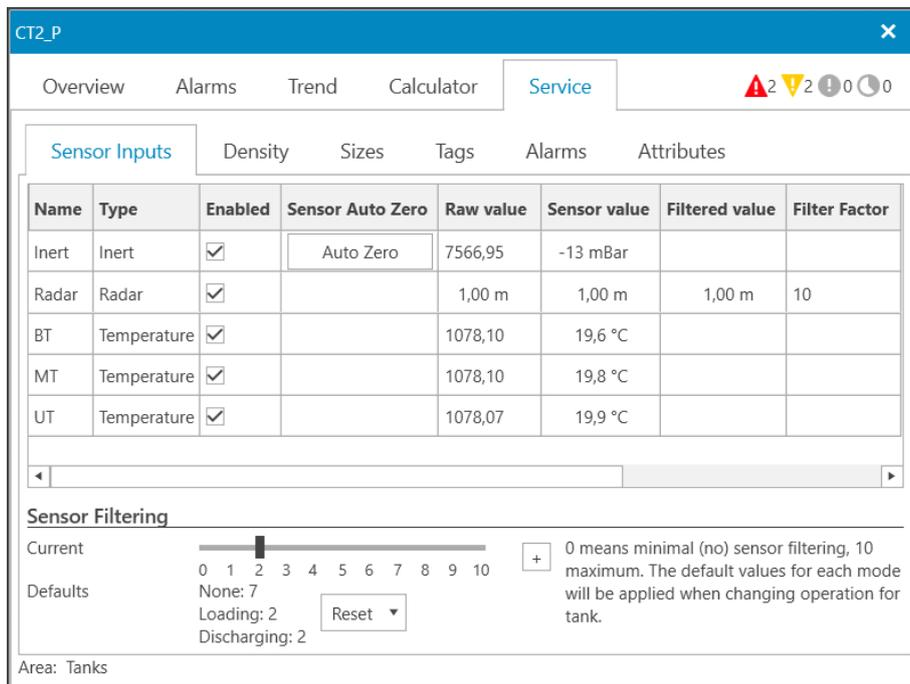

Figure 9-1: Tank sensor disabled
3. Locate the sensor and click the Enabled checkbox (See Figure 9-1 below).
**Note:** Tank pressure sensors can also auto zeroed using the **Zero Set/Optimize Tank** function (0), and is more efficient to use for zero setting multiple tank sensors.
- Open the Tank Faceplate and select the **Service->Sensor Inputs** tab (Figure 9-1)